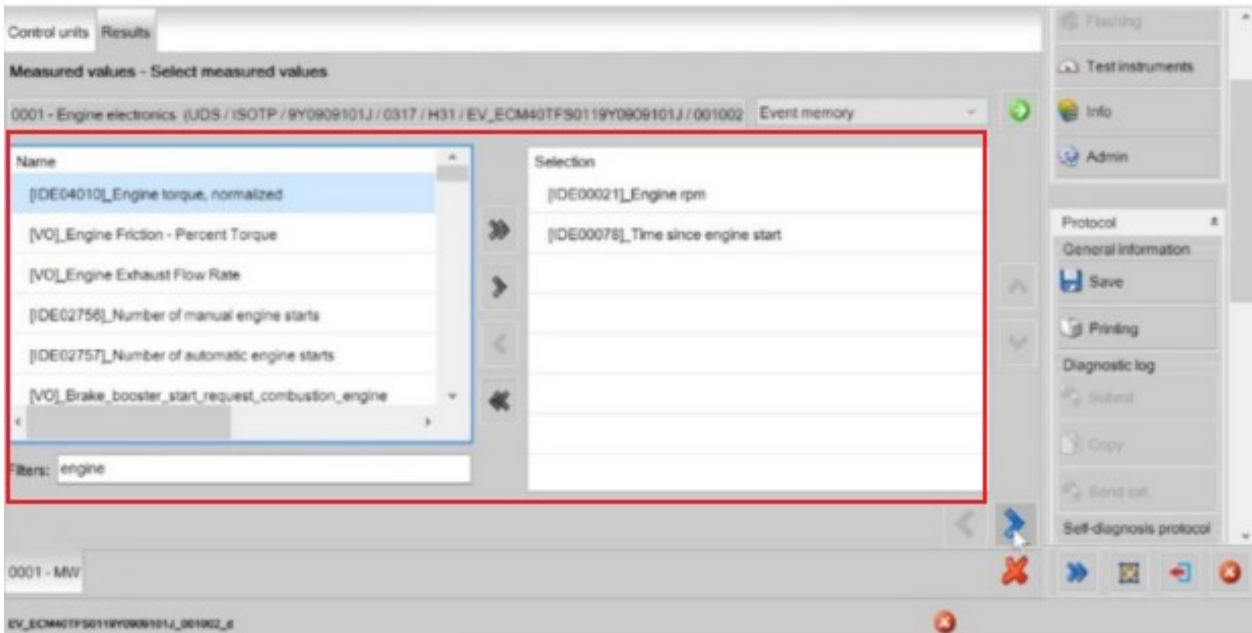

Figure 2
2) Select the required Measured values (Figure 2)